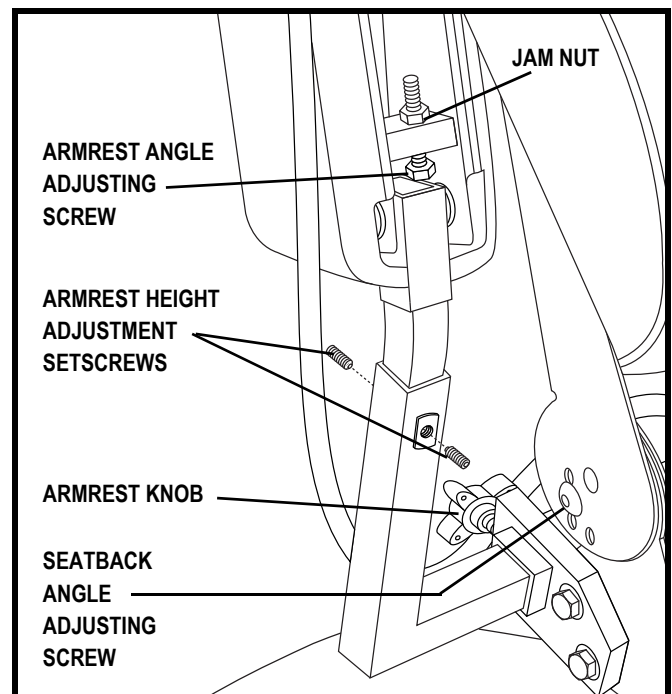

Figure 18. Seatback Angle Adjustment
1. Remove the adjusting screws from each seat hinge. **See figure 18.**
1. Locate the two armrest knobs on each side of the armrest receiver bracket. **See figure 18.**
1. Lift the armrest straight up so that it is perpendicular to the floor. **See figure 18.**